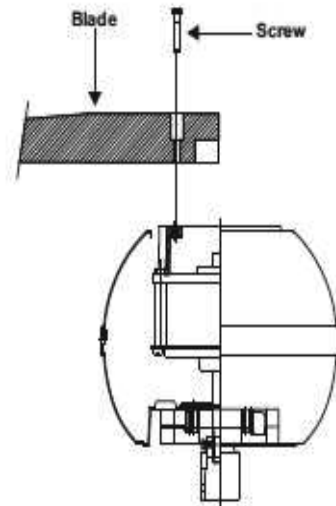

Figure 5
1. Fasten a blade to the motor using the screws supplied. (Fig. 5)